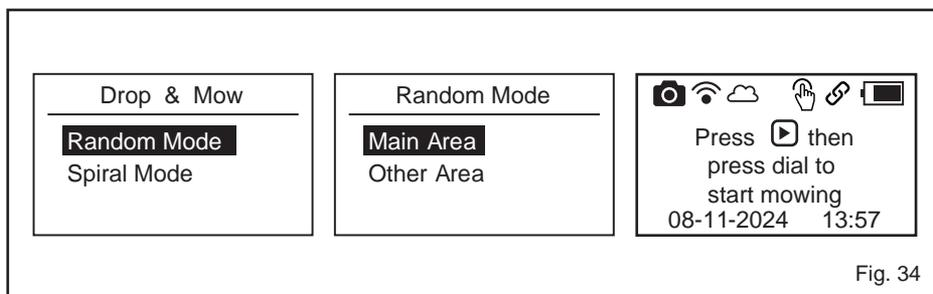

Fig. 34
- Select Random Mode or Spiral Mode by turning the Dial. Press the Dial to confirm (Fig. 34).
- Press the Dial to confirm (Fig. 34).